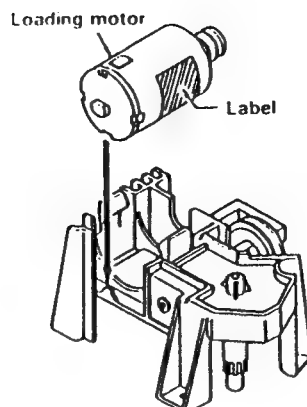

Figure 1-72.
1. Remove the loading motor, and mount a new loading motor as in Figure 1-72.
2. Place the loading motor so that its label is visible as shown in Figure 1-72. Make sure that the screw hole at the motor shaft, protuberance on the loading block, and the motor's back end marked with the arrow are mated with each other.